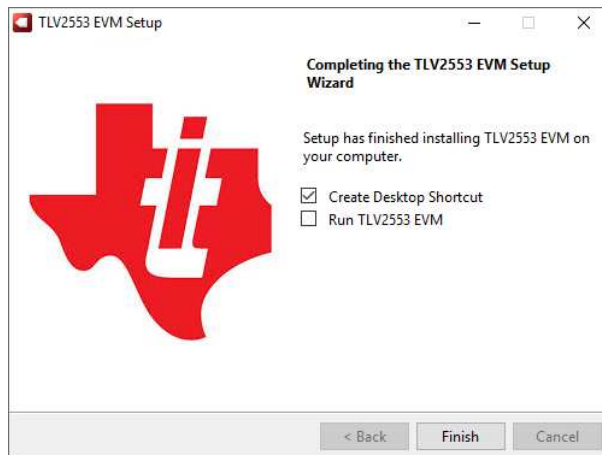

Figure 7. TLV2553EVM-PDK Installation Final Step
4. If you would like a Desktop shortcut, check the *Create Desktop Shortcut* box, as shown in Figure 7.